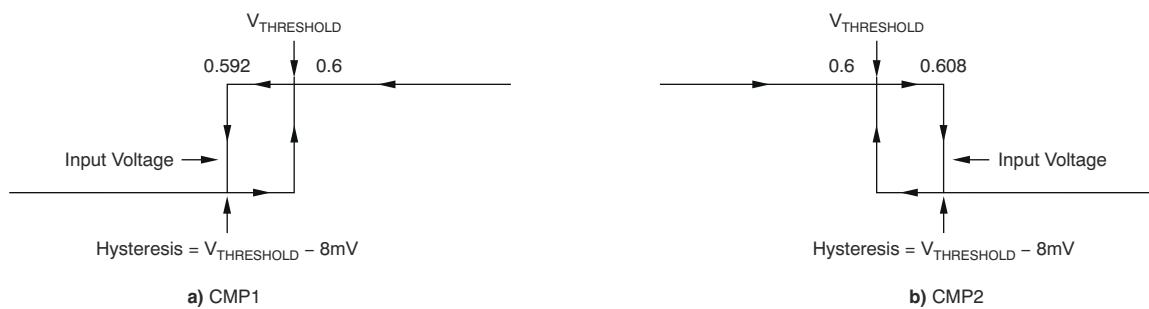

Figure 6-1. Comparator Hysteresis
- (1) Hysteresis refers to the threshold (the threshold specification applies to a rising edge of a noninverting input) of a falling edge on the noninverting input of the comparator; refer to Figure 6-1.
- (2) Specified by design; not production tested.
- (3) See the Comparator Maximum Input Voltage Range section in the Application and Implementation.
- (4) The comparator response time specified is the interval between the input step function and the instant when the output crosses 1.4 V.
- (5) The CMP1 $\overline{\text{RESET}}$ input has an internal 2-M Ω (typical) pulldown. Leaving the CMP1 $\overline{\text{RESET}}$ open results in a LOW state, with transparent comparator operation.
- (6) The Comparator 2 delay applies to both rising and falling edges of the comparator output.